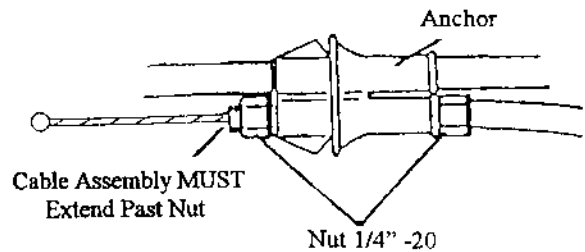

FIGURE 24
4. Insert the **Cable Assembly** through the blank anchor and thread the other 1/4"-20 Nut in place. (**Figure 24**)